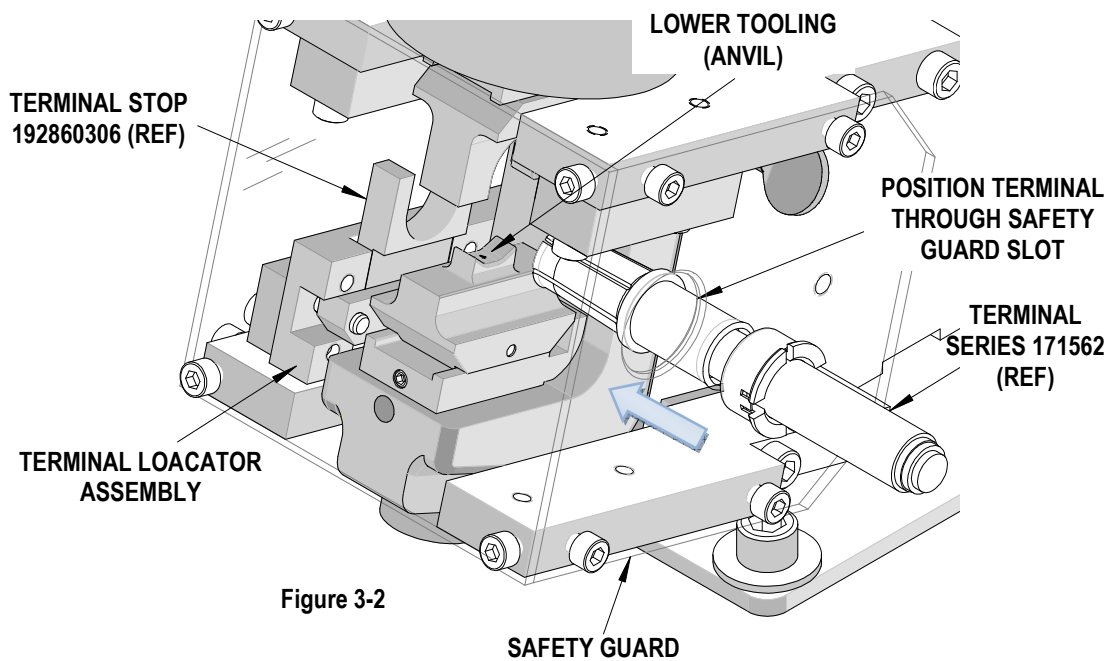

Figure 3-2
2. Position the terminal into the slot of the safety guard shown in figure 3-2 and above the the lower crimp tool (anvil) until it stops.